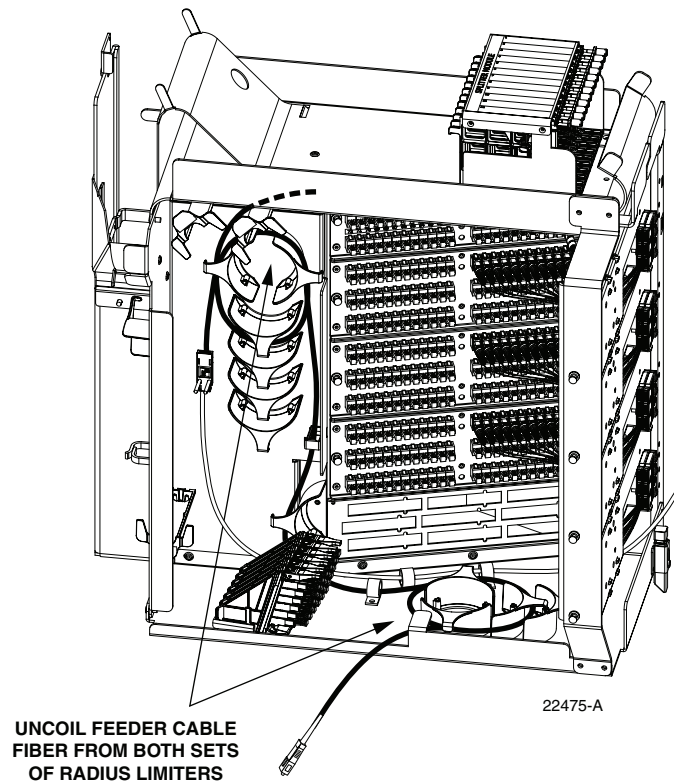

Figure 18. Uncoiling the Feeder Cable Fiber
5. Carefully unwind the feeder fiber from the radius limiters located on the bottom and on the left side of the swing-out assembly. Figure 18 shows the section of the fiber that will need to be released for re-routing. When necessary, backfeed the fiber to free the connector from the remaining fibers.